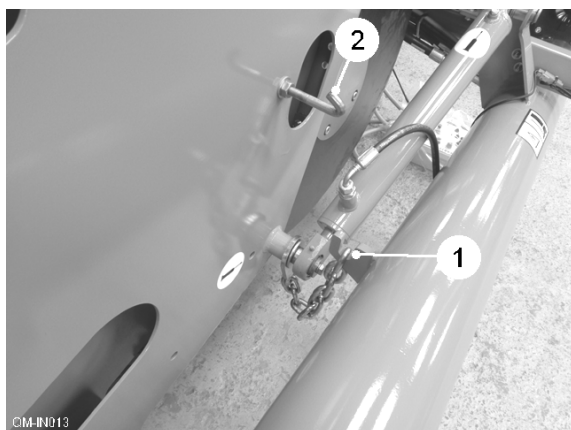

Fig. 4
The digger assembly, which includes the depth wheels, disc coulters, shares and main web is retained in the raised position by transport chains. Before attempting to operate the digger assembly the transport chains (item 1, fig. 4) will need to be unhooked from the chassis and placed on the stowage hook (item 2, fig. 4).